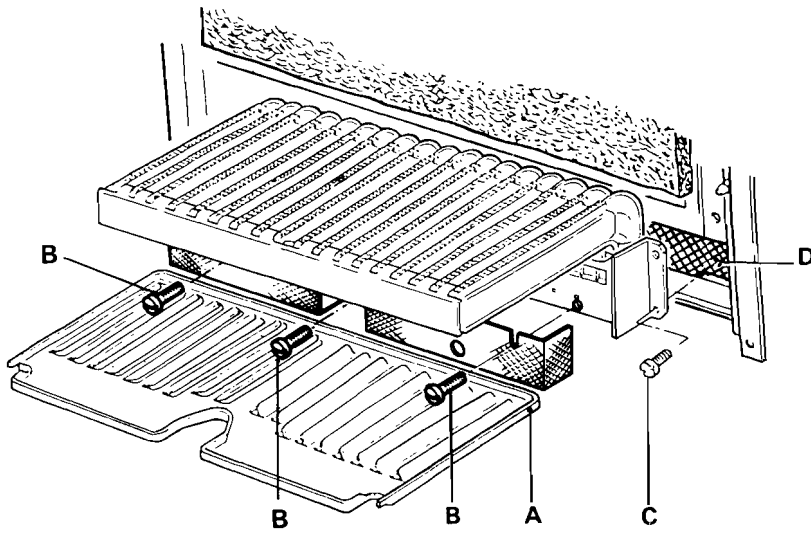

Fig. 23
Section 6 : To remove the burner bar (Fig. 23 and 25)
6.7. Unscrew the 3 screws 'B' of the front lint arrester and remove it (Fig. 23).
6.9. Unscrew the 2 screws 'C' of the burner bar (Fig. 23).
Section 7 : To replace the burner (Fig. 23)
Section 8 : To replace the Lint Arresters (Fig. 23)